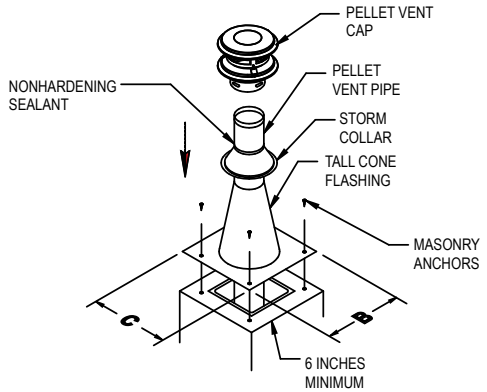
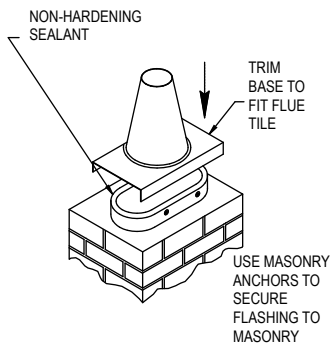

Figure 13
Figure 15
11. For the termination of the pellet vent, you will use a Tall Cone Flashing, and a Storm Collar. This will require 14 inches of pipe above the top of the masonry chimney. Pull the pipe up through the flashing to the desired height. Mark where the Storm Collar will go. Slip the Storm Collar down over the pipe, and affix it to the pipe with a 1/4"-long stainless steel sheet metal screw. (**Figures 13 & 14**). The Storm Collar will then support the entire vent system. Install the Cap. Seal the joint at the Storm Collar, and any other joints or seams which may appear suspect. **Figure 15** shows a Tall